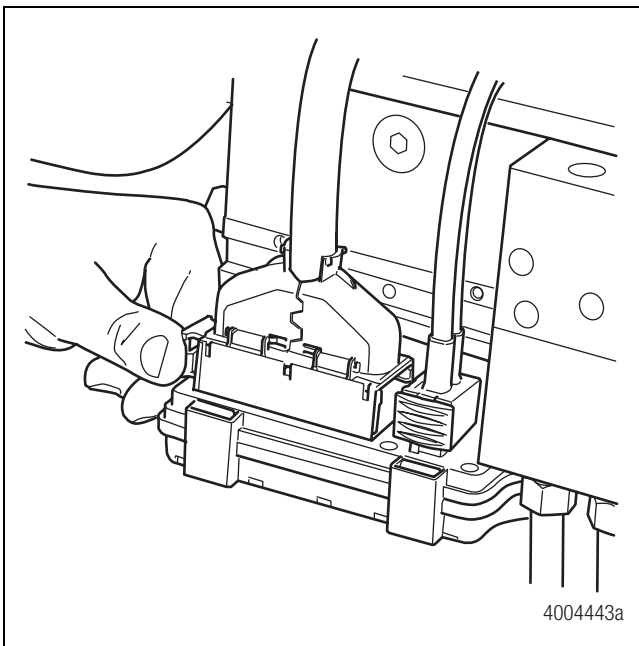

Figure 12
5. First attach the 31-pin harness connector. Then, attach the two-pin power harness connector to the ECU. Push the latch into position to lock the connection. Figure 12.